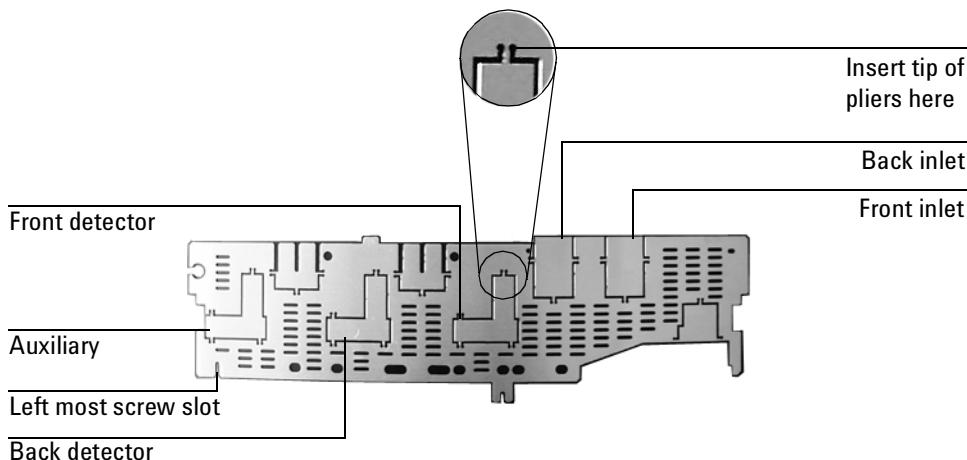

Figure 310-16 Top rear panel cutouts
9. Using a pair of needle-nosed pliers, remove the appropriate top rear panel detector cutout for the FID. Also remove any cutouts needed to access other manifolds or accessories installed in the GC. See Figure 310-16.